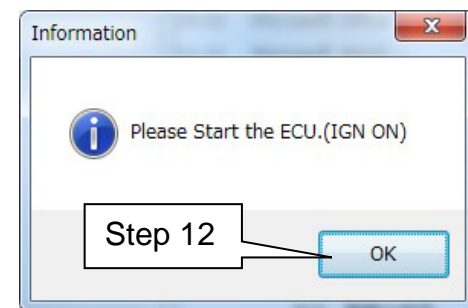

Figure 6
- After selecting OK in Figure 6, the OCS reprogramming will start.